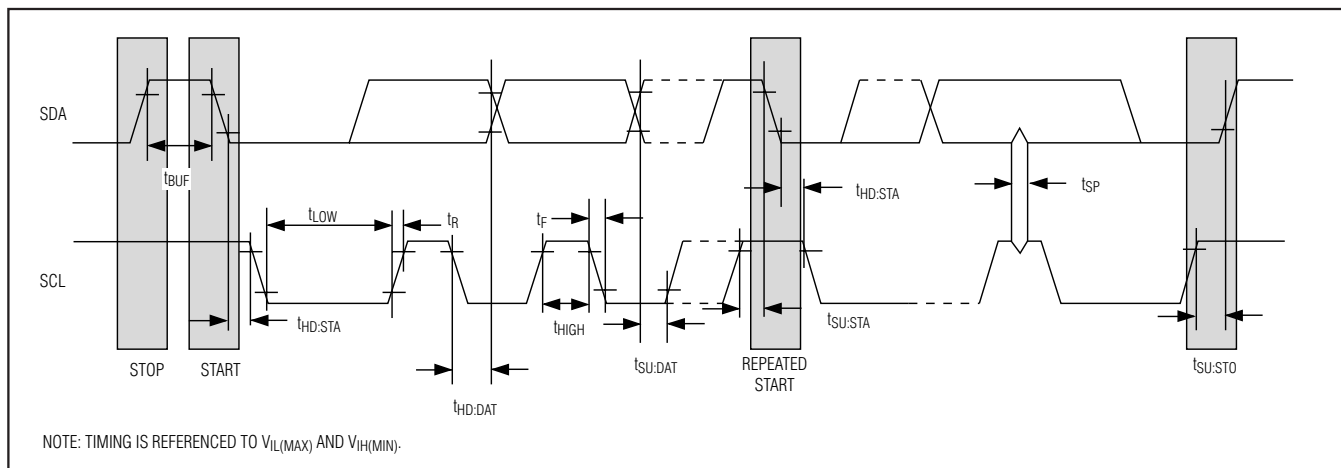

Figure 9. I2C Timing Diagram.
**Bit Write:** Transitions of SDA must occur during the low state of SCL. The data on SDA must remain valid and unchanged during the entire high pulse of SCL plus the setup and hold-time requirements (Figure 9). Data is shifted into the device during the rising edge of the SCL.